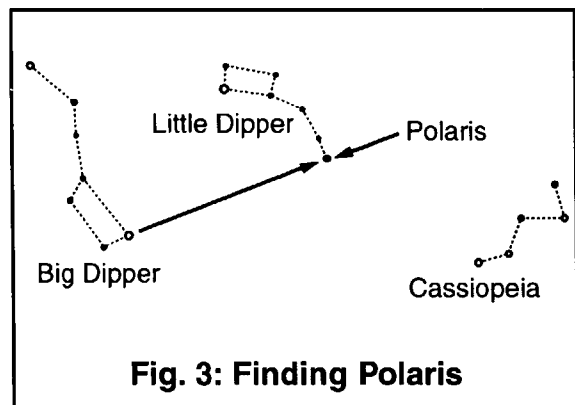

Fig. 3: Finding Polaris
- 1) Release the Azimuth lock (30) of the Azimuth base (33), so that the entire telescope-with-mounting may be rotated in a horizontal direction. *Rotate the telescope until the polar axis (10) points due North.* Use a compass or locate Polaris, the North Star (see Fig. 3), as an accurate reference for due North.
- 3) Determine the latitude of your observing location by checking a road map or atlas. Release the latitude lock (9) and turn the latitude adjustment knob (11) to tilt the telescope mount so that the pointer indicates the correct latitude of your viewing location on the latitude dial (29). Re-tighten the latitude lock (9).
- 4) If steps (1) - (3) above were performed with reasonable accuracy, your telescope is now sufficiently well-aligned to the North Celestial Pole for visual observations.